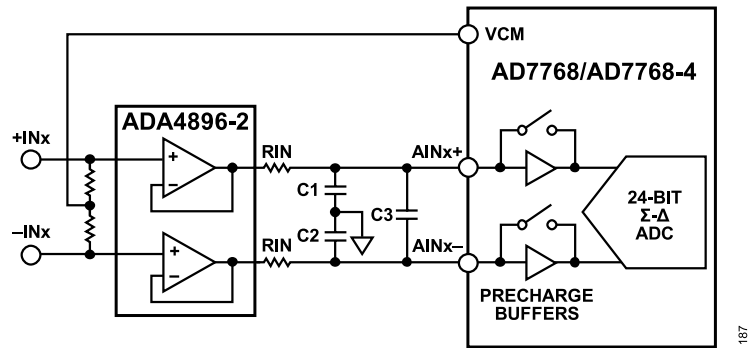

Figure 87. Typical Input Structure for an RC Network
Full settling of the analog inputs to the ADC requires the use of an external amplifier. Pair amplifiers such as the ADA4805-2 for low power mode, the ADA4807-2 or ADA4940-1/ADA4940-2 for median mode, and the ADA4807-2 or ADA4896-2 for fast mode with the AD7768/AD7768-4 (see Figure 87 for details). Running the AD7768/AD7768-4 in median and low power modes or reducing the MCLK rate reduces the load and speed requirements of the amplifier. Therefore, lower power amplifiers can be paired with the analog inputs to achieve the optimum signal chain efficiency.
There is a resistor/capacitor (RC) network between the amplifier output and the ADC input. Figure 87 shows a typical RC network